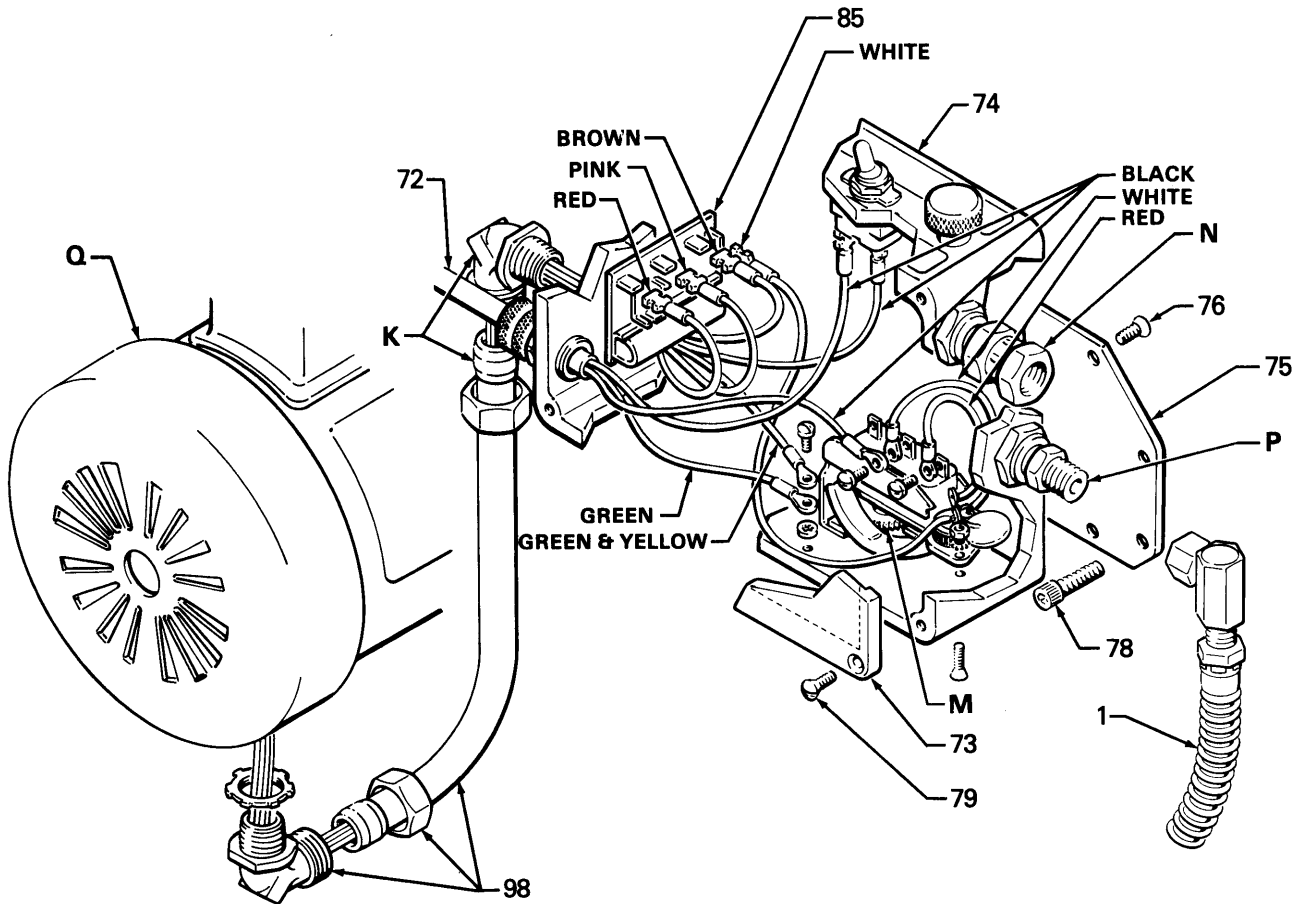

Fig 11
NOTE: The motor is sold only as an assembly, installed on a gearcase cover with bearings in place, and a new gasket. Don't try to remove the gearcase cover. Order part number 217-086 for the replacement assembly. Terminals (96, 97) are not included with a new motor. Order these separately and crimp to motor leads as shown in Fig 11.
Remove the fluid hose (1) from the pressure control (74). Disconnect the conduit (98) and wires (K) from the motor (Q). Refer to Fig 11. Then remove the three capscrews (78) holding the control to the gearcase.
If the circuit board (85) is all that needs to be replaced in the pressure control, remove the screws (79) and the front cover (73). See Fig 11. Pull the board out carefully, just far enough to reach the wire terminals. Unsnap the wires and finish removing the board.
Position the new card at the control so the wire connectors are at the top. Following the color coded diagram in Fig 11, snap the wires onto the board. Carefully guide the wires back into the control, making sure they don't get caught on anything, then slide the new board into place. Calibrate the pressure control before operating the sprayer. See page 15.